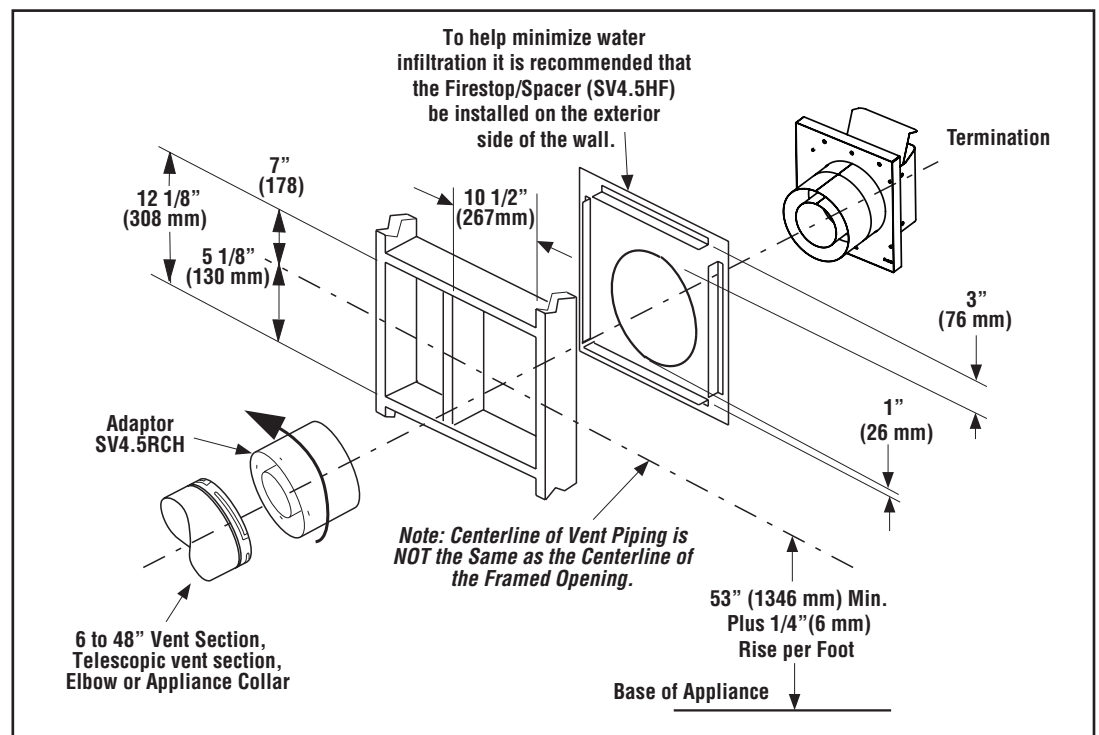

Figure 9 - Installing the Horizontal Termination
10. **Assemble the vent run to the exterior wall—**If not previously measured, locate the center of the vent at the exterior wall. Prepare the opening. Assemble the vent system until the terminus of the last section is within 7" (178 mm) to 11 1/4" (286 mm) inboard of the exterior surface to which the SV4.5 HT termination is to be attached (Figure 9). If the terminus of the last section is not within this distance, use the telescopic vent section SV4.5LA, as the last vent section. Table 1, page 16 lists the additional venting components needed (in addition to the termination and adaptor) for a range of wall thicknesses.
11. **Attach the termination adaptor—**Attach the adaptor (SV4.5RCH, provided with the termination) to the vent section or telescoping vent section, elbow or fireplace collar (Figure 9).
12. **Install the firestop/spacer at the exterior wall—**When using the square termination, install SV4.5HF Firestop/Spacer over the opening at the exterior side of the framing, long side up, with the 3" spacer clearance at the top (Figure 9) and nail into place.